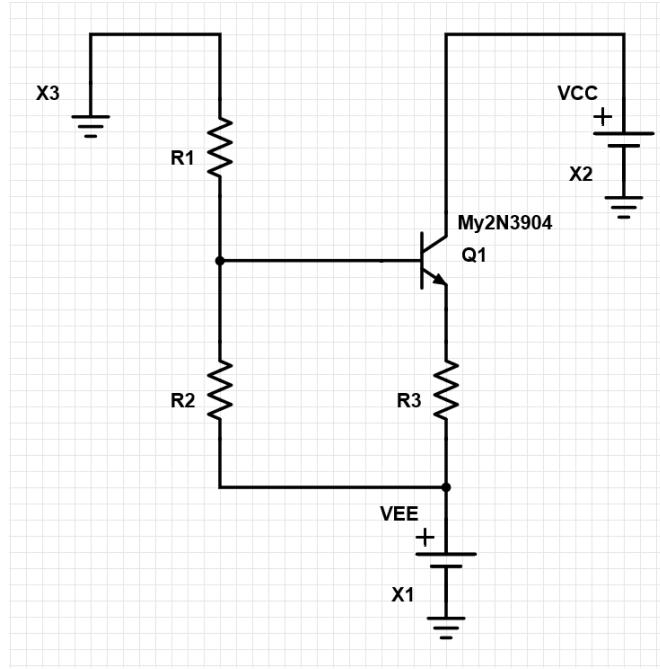

Fig. 6 Constant current sink using an NPN-BJT 2N3904
3.1 In PartSim (LTspice or PSpice), construct a current sink as shown in Fig. 6 and load the SPICE 3 model parameters for Q1 following the same procedure as in Step 1.1.
To avoid the change in I_B , we connect R_3 to the emitter of the BJT, as shown in Fig. 6, to work as a feedback resistor. For example, if $|V_{EE}|$ reduces, which causes I_B to be smaller than the designed
Fig. 7 The equivalent circuit for the constant current sink in Fig. 6 with R_1 , R_2 , and power supply replaced by its Thevenin equivalent circuit V_{BB} and R_{BB} .
Q7. (15 Points) Inserting the feedback R_3 at the emitter of the BJT not only stabilizes the I_B but also improves (or increases) the output resistance R_o of the current sink shown in Fig. 6/Fig. 7 (i.e., I_o is more stable when there is a change in V_{CE}). Using a π -model for the BJT, prove that the output
Q10. (10 Points) When designing the constant current sink shown in Fig. 6, we assume that $|V_{CE}| \geq 0.3V$ and Q_1 works in the active region. Based on the resistance values obtained in Q9, sweep V_{CC} in Fig. 6 from -5 V to $+5V$ with a 0.05 V step and measure V_E and I_C to determine the $|V_{CE}|$ required for Q_1 to work in the active region.